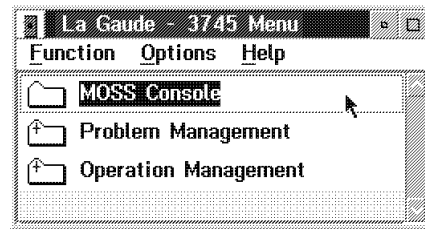

Figure 7-1. 3745 Menu
- c. ____ Double click on **"MOSS Console"**. (see Figure 7-1 on page 7-3)